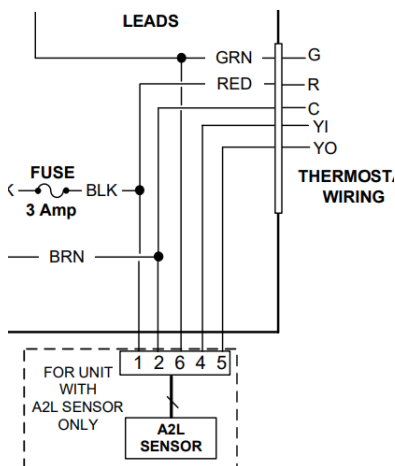

Figure 2: A2L Sensor example wiring
- 5) Connect the A2L harness (Figure 1.5) from the sensor (Figure 1.3) to the unit wiring kit Molex. Refer to the **unit wiring diagram** for sensor wiring. Figure 2 shows an example wiring diagram excerpt.